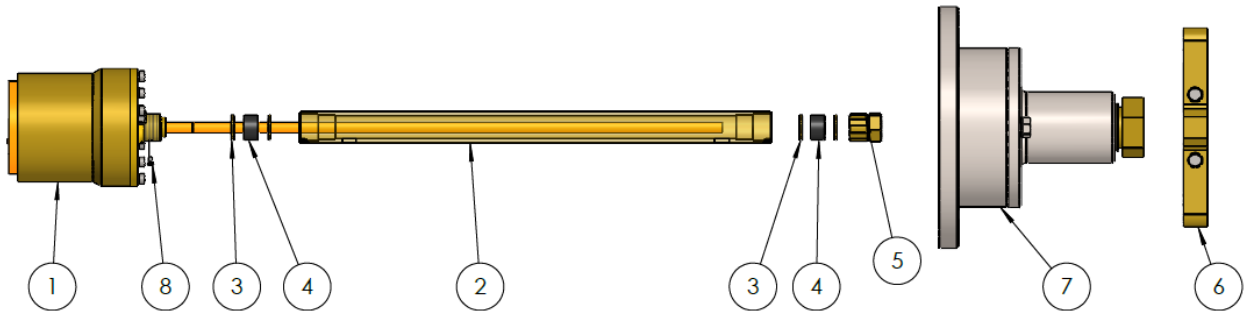

Figure 6 - Assemble the extension tube and sensor
When delivered, the sensor is pre-assembled in the housing (item 1 in Figure 6). To assemble the extension tube, follow the instructions below:
1. Thread a washer, gasket, and another washer on the sensor cable (item 3 and 4 in Figure 6).
2. Thread the extension tube on the cable (item 2 in Figure 6).
3. Thread a washer, gasket, and another washer on the cable (item 3 and 4 in Figure 6).
4. Unscrew the countersunk M4 screw (item 8 in Figure 6).
7. Mount the M28 nut (item 5 in Figure 6) on the extension tube. Tighten until the gasket compresses around the cable.
8. Thread the sensor assembly through the top assembly (item 7 in Figure 6).
9. Thread the clamp unit on the sensor cable (item 6 in Figure 6).